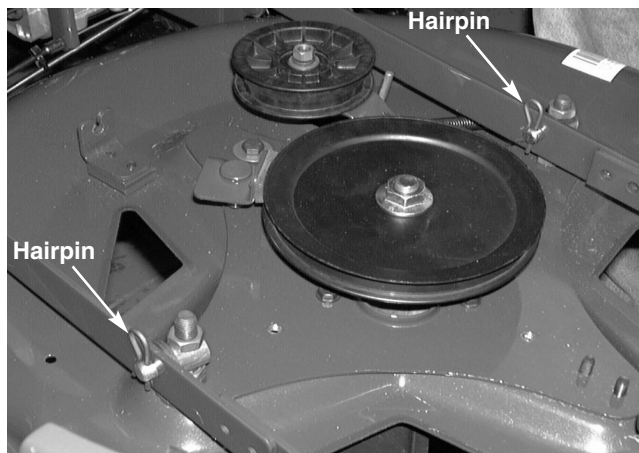

FIGURE 5.
- 6). Remove both hairpin clips that secure the center deck ferrules to the lift link assembly. See figure 5.